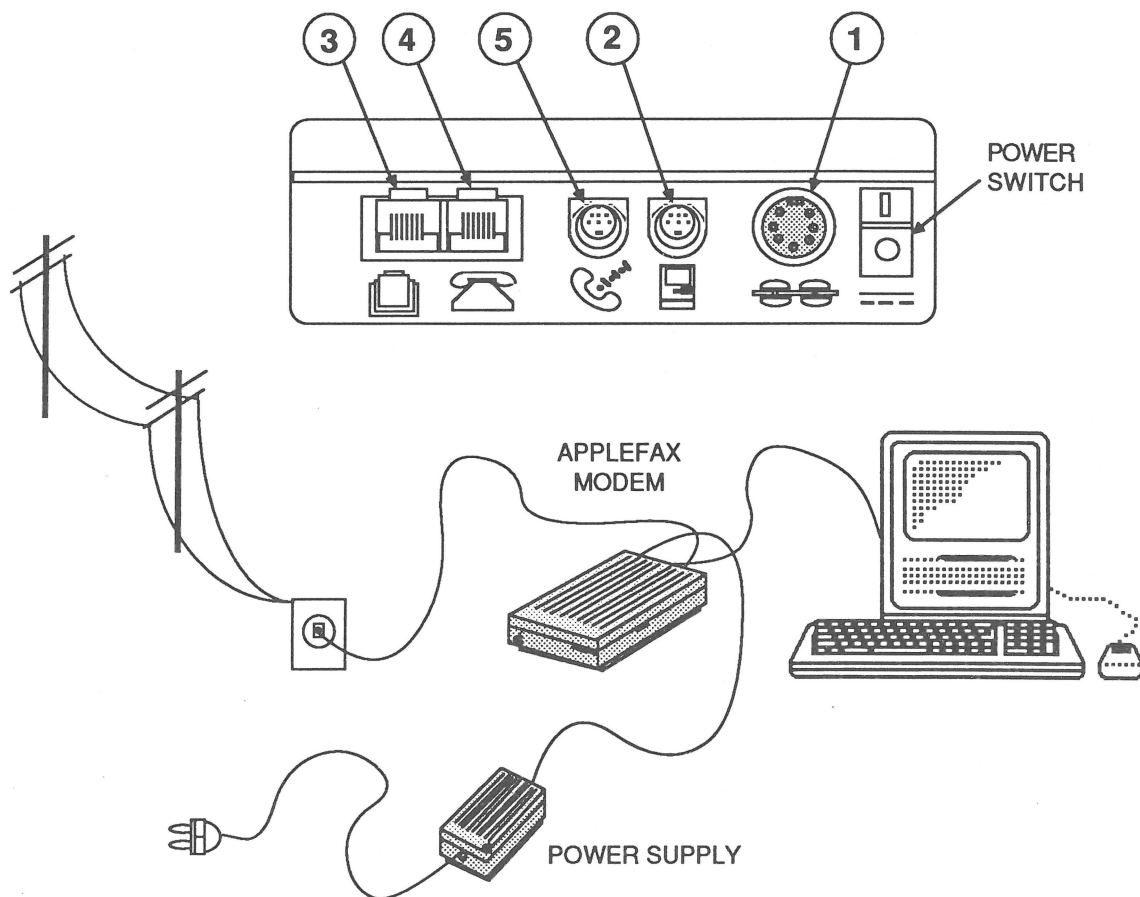

FIGURE 1
- The power connector (Figure 1, #1) joins the modem to the external power supply.
- The Macintosh connector (Figure 1, #2) joins the modem to the computer.
- The phone line connector (Figure 1, #3) joins the modem to the phone line.
Two connectors on the AppleFax Modem serve auxiliary functions and are not required for fax mode operation. The telephone connector (Figure 1, #4) can be used to connect a telephone to the same phone line used by the modem. The modem connector (Figure 1, #5) provides an additional serial port that may be used by printers and conventional modems to connect to the Macintosh.